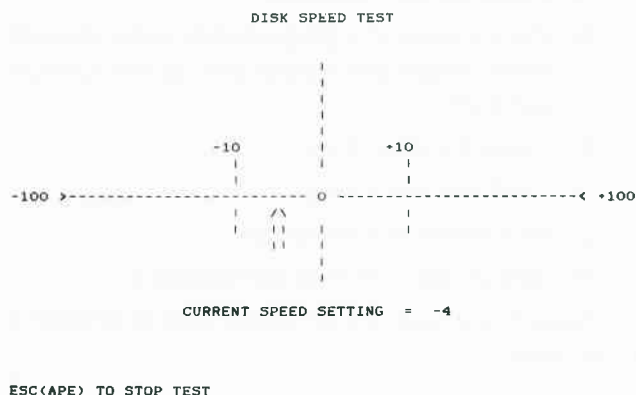

Fig. 5-13. Sample disk-speed test screen display.
7. Most speed test programs display a graduated scale of some sort as shown by the example in Fig. 5-13. Using a jeweler's screwdriver or a "tweaker" (small screwdriver), slowly turn the speed control adjustment pot screw until the speed display shows the actual rotation time to be as close to 300 rpm as possible—within ± 6 milliseconds.